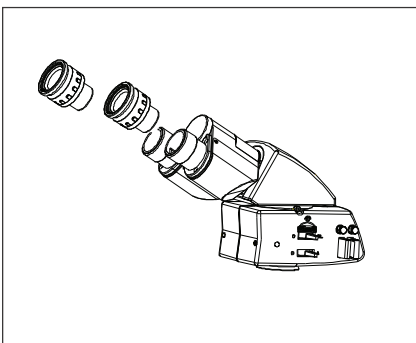

Fig.17
2. Insert eyepieces into the ocular sleeve for use (Fig. 17).